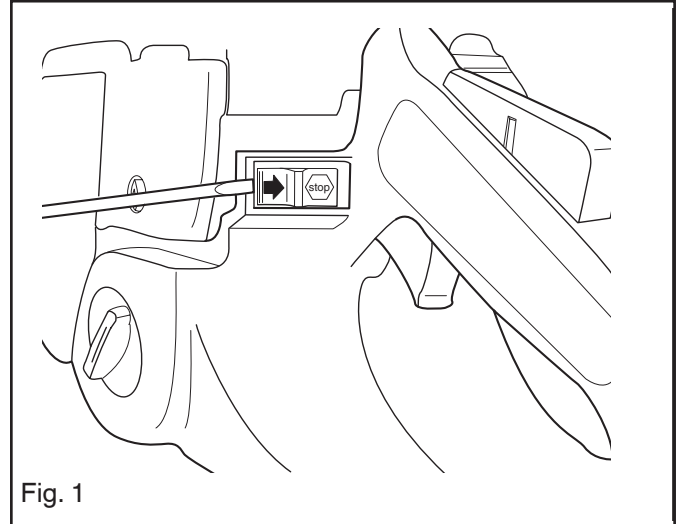

Fig. 1
1. Remove the stop switch with a screwdriver and detach the leads. See fig. 1.